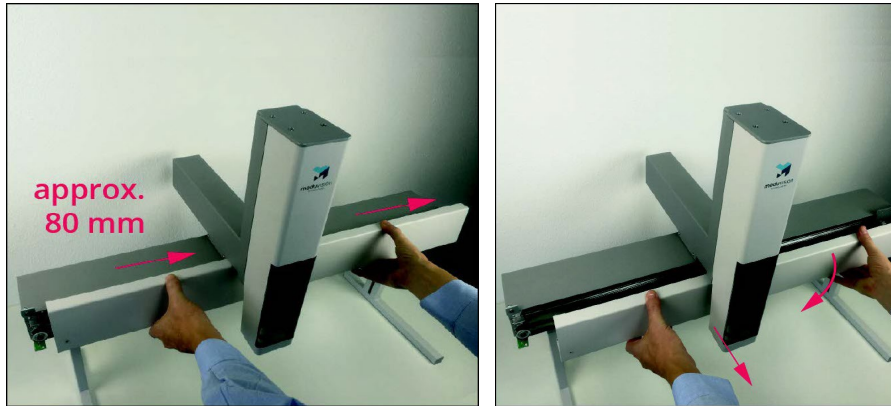

Figure 102: X-beam Front Cover Removal 5
6. Gently move the tower front cover sideways towards the right. Displacement to the right must be at least 80 mm. See Figure 102.